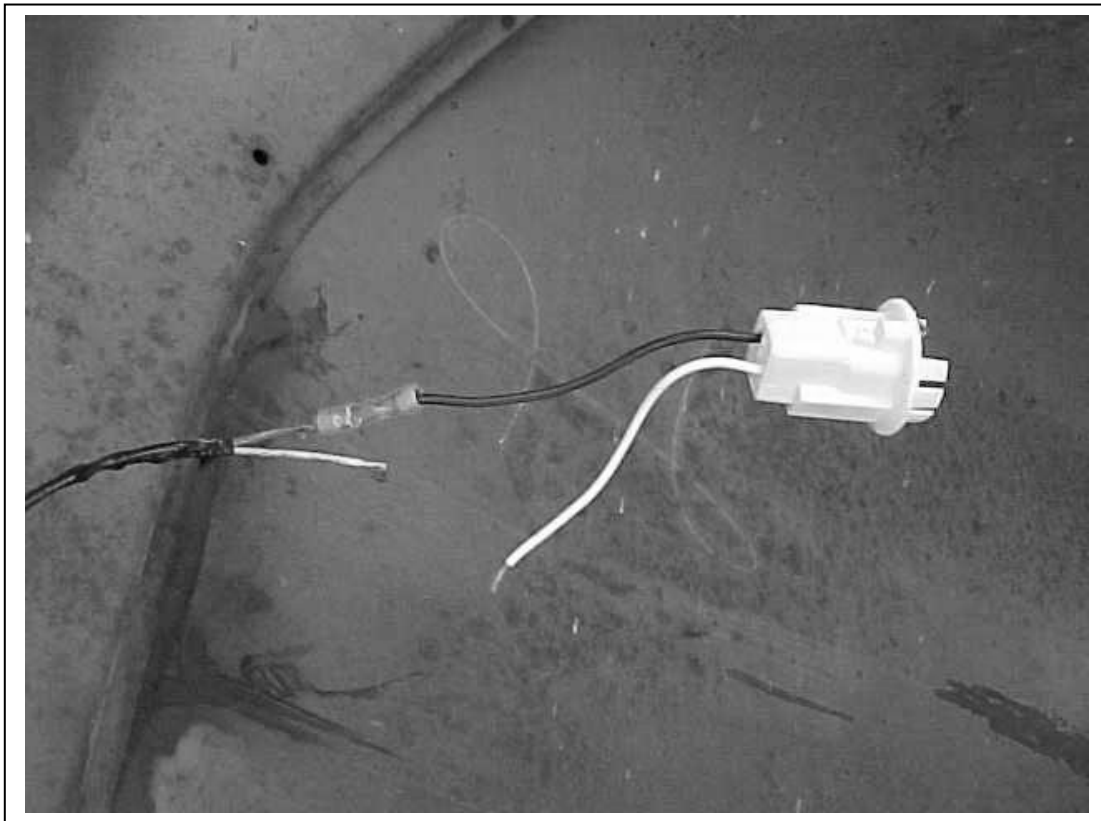

Figure 6.10 Strip and crimp your wires. **CAUTION: DO NOT OVER CRIMP.**
- 6.4.4** Strip insulation away from wire. Strip only enough necessary for the type of terminal lug you are using. As shown in **Figure 6.10**.